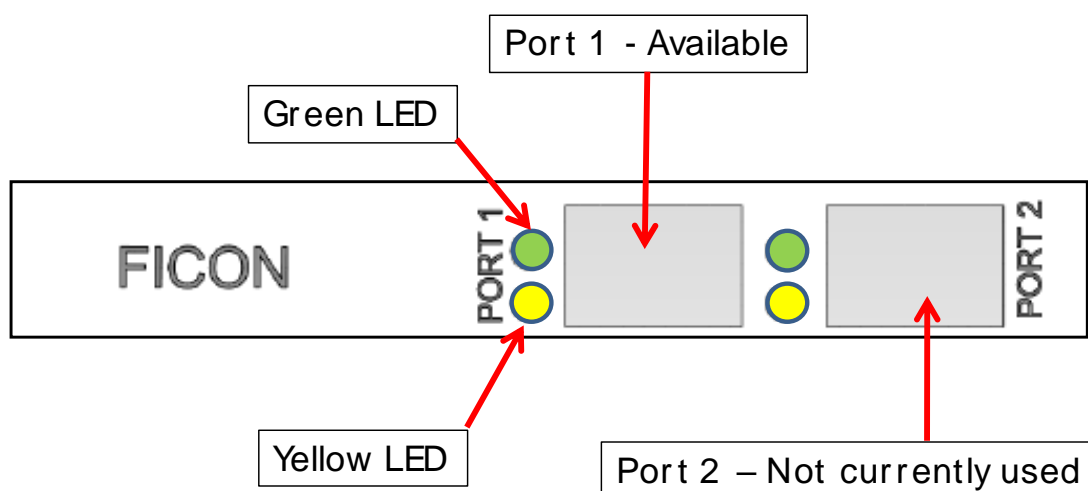

Figure 3 - Layout of the FICON interface
- Looking at the rear panel of the HSM and checking that there is a FICON interface, as shown in Figure 3 in Chapter 2 of the *payShield 9000 General Information Manual*. If no FICON interface is fitted, the FICON interface is replaced with a blanking plate.